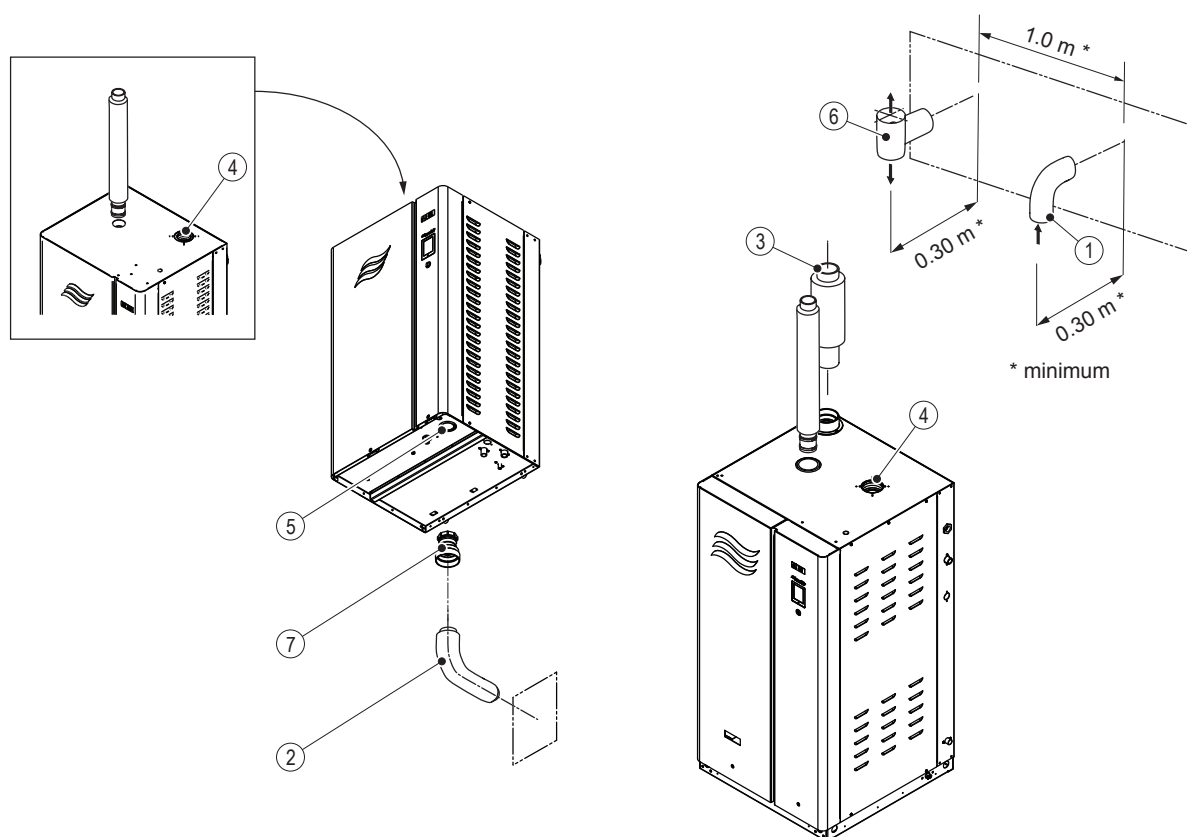

Fig. 15: Sealed Combustion Air Connection (compact shown left)
Note: Condair requires installing an elbow (fitted with a screen) at the intake air inlet on all GS 65-260 (full size) units to prevent dirt and debris from being drawn into the combustion chamber. Seal the connection with silicone sealant. Keep the area around the air intake clear of all obstructions. Refer to Fig. 15 on page 39. Refer to Table 10 on page 39 for outside diameter of elbow.
- An intake (elbow) terminal must be installed on the outside termination of the air intake vent, with the elbow facing down – refer to Fig. 15 on page 39. The location and spacing between the air intake terminal and exhaust vent terminal must comply with all local and national regulations, with at least a minimum spacing of 1 m between them.